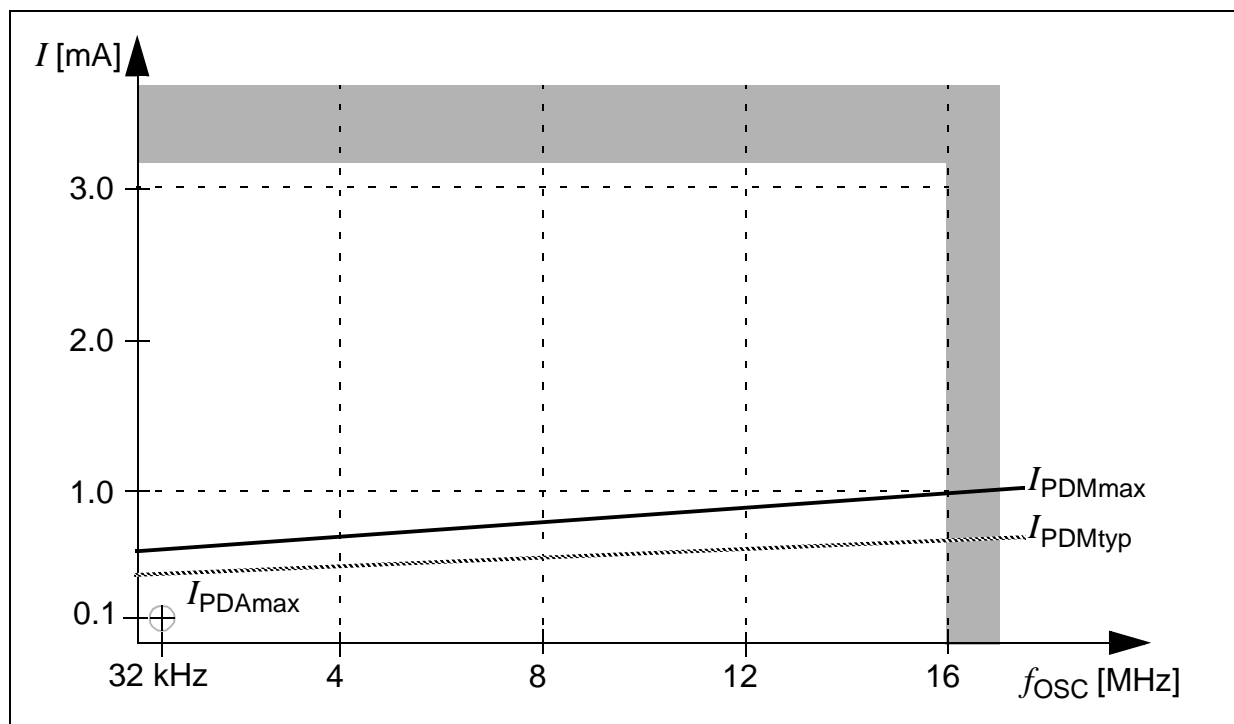

Figure 12 Sleep and Power Down Supply Current due to RTC and Oscillator running, as a Function of Oscillator Frequency
- 7) This parameter is determined mainly by the current consumed by the oscillator switched to low gain mode (see Figure 12). This current, however, is influenced by the external oscillator circuitry (crystal, capacitors). The given values refer to a typical circuitry and may change in case of a not optimized external oscillator circuitry.